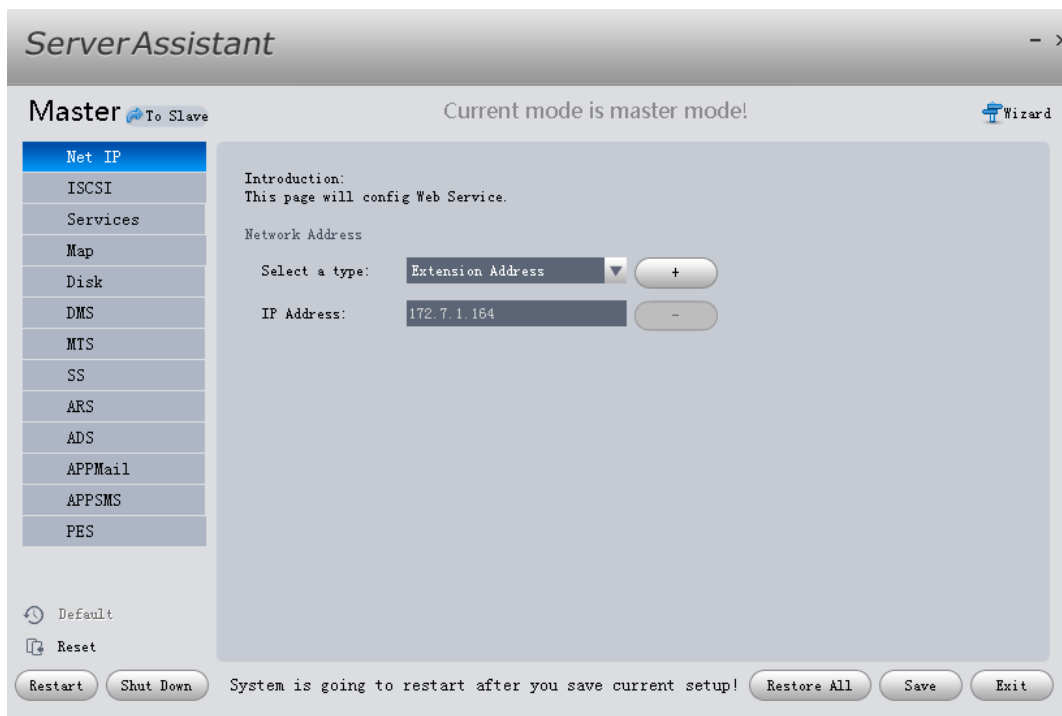

Figure 2-8
- 3) Input server IP you set in chapter 2.1 and then click the Login button. System pops up the main interface. See Figure 2-8.
On the Figure 2-8 interface, click the iSCSI on the left pane to set iSCSI information. Click Save button to complete.
On the Figure 2-8 interface, click the Disk on the left pane to set disk information. Click Save button to complete.